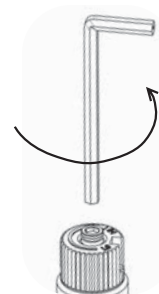

Fig. 2
10) Insert a 5/32" or 4mm Allen wrench into the hexagonal key-way of the screw (Fig. 2), rotate it counter-clockwise until it is free and extract it.